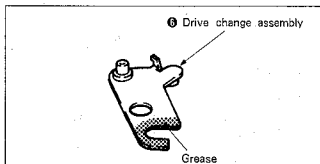

Fig. 7-34.
- 1) Put a half drop of oil on the L-SW assembly ⑨ shaft (planetary roller shaft).
- 2) Mount L-SW assembly ⑨ and tighten with the two screws ⑧.
- 3) Connect connector ⑦.
- 4) Operate the mode selector and confirm that the L-SW assembly ⑨ rotates.
- 5) Put a half drop of oil on the shaft ⑩.
- 6) Grease the drive changer assembly ⑥. (See Fig. 7-34.)